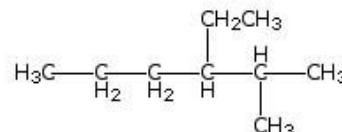

Figure 4b.
- If there is more than one particular substituent (Figure 4b), designate the position of every group and alphabetize the substituents.